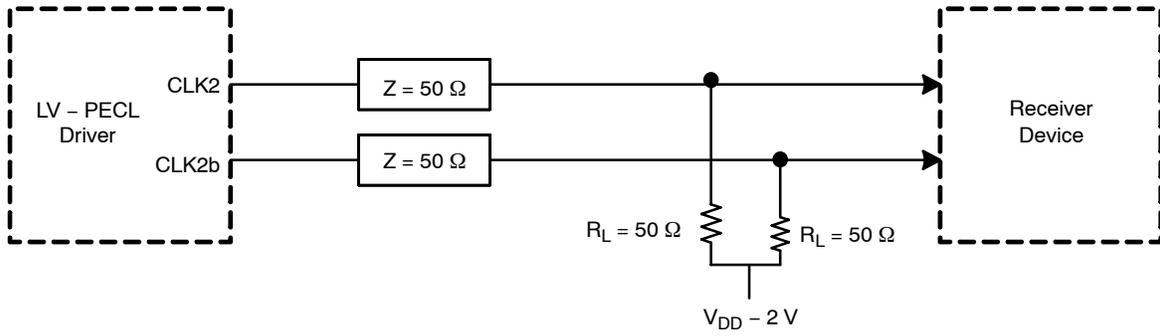

Figure 2. Typical Termination for Output Driver for Device Evaluation
5. Measurement taken with outputs terminated with  $50\ \Omega$  to  $V_{DD} - 2\text{ V}$ . See Figure 2.